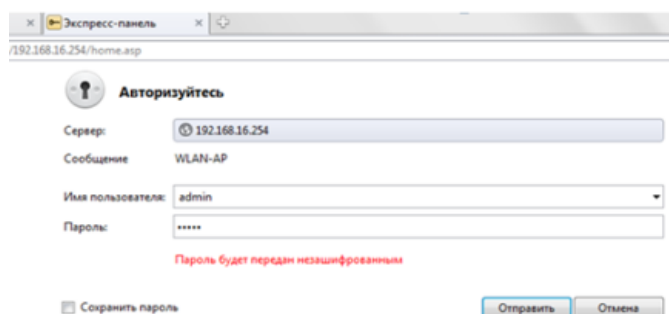

Figure 6.1 – User name and password input window
- 1) Connect to SunSDR2 wireless net and enter in internet browser, for example Opera or Internet Explorer, address field the following line **http://192.168.16.254**. Then Login and Password input field will appear, as it is showed in Figure 6.1. In the appeared window we put user name **admin**, password **admin**, and push **Send**.